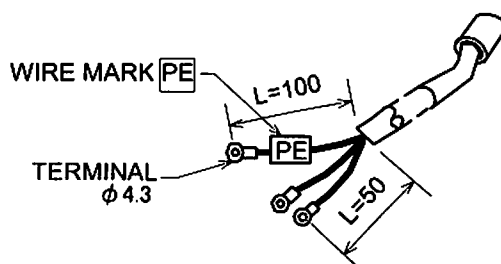

Fig.5-9 Power Cable
(1) Connect the power cable terminal to the terminal board of user's power distribution board for equipment. The wire with [PE] mark is for earth use and other remaining two wires are for single phase AC power. (See Fig. 5-9, Table 5-1)